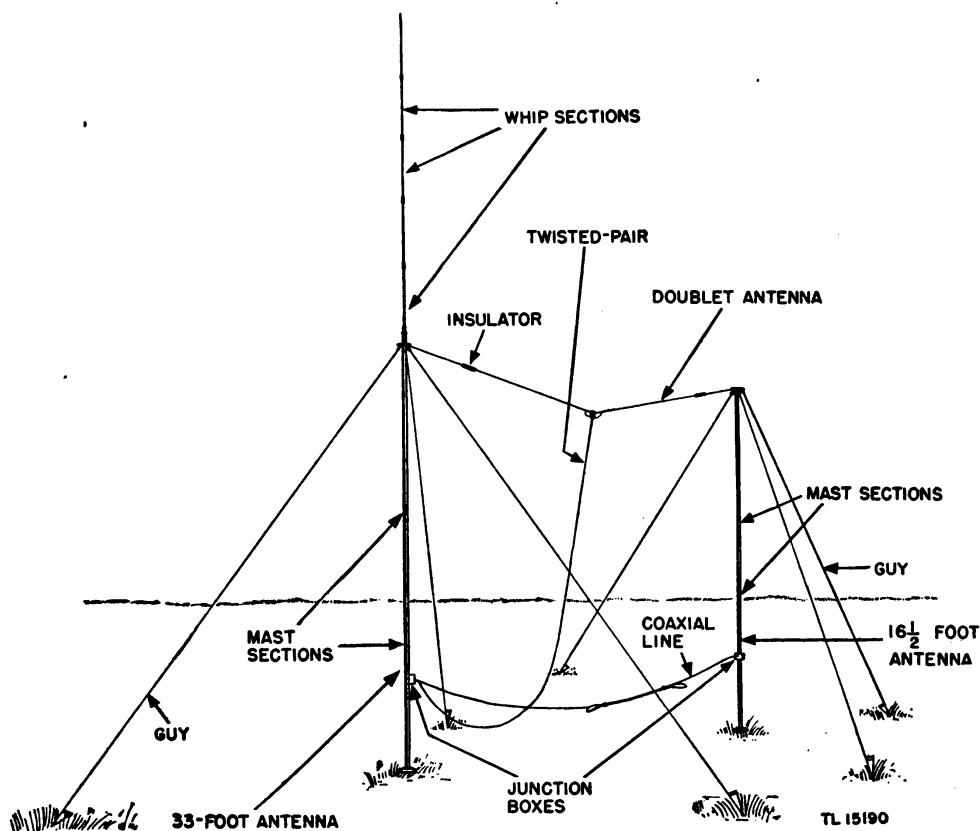

Figure 1. Antenna Equipment RC-219-A—general view.
a. Antenna Equipment RC-219-A provides continuous coverage at frequencies from 2 to 20 megacycles (mc) in addition to band coverages at higher frequencies. It consists of two vertical antennas and a horizontal doublet antenna. (See fig. 1.)
(1) Two vertical masts (fig. 1) 16½ feet long are used, part of each being used as a vertical antenna. A synthane insulator, located in the
Lay out the positions of the three guy stakes for each mast by placing them 14 feet from the bases of the masts and 120° apart. (See figs. 1, 2, and 3.) Drive all stakes approximately 1 foot into the ground and at a 30° angle away from the masts.